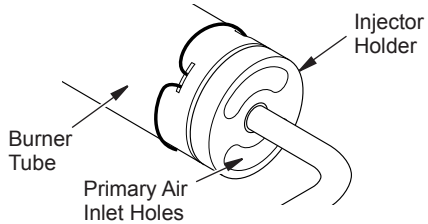

Figure 49 - Injector Holder On Outlet Burner Tube
2. Inspect burner, pilot, and primary air inlet holes on injector holder for dust and dirt (see Figure 49).